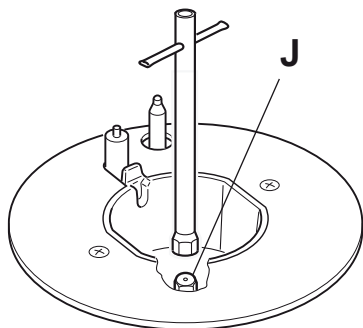

Figure 10a
- Using a spanner, remove the injector “J” (figs. 10a, 10b) and replace it with one according to the gas type (see table - page 13).